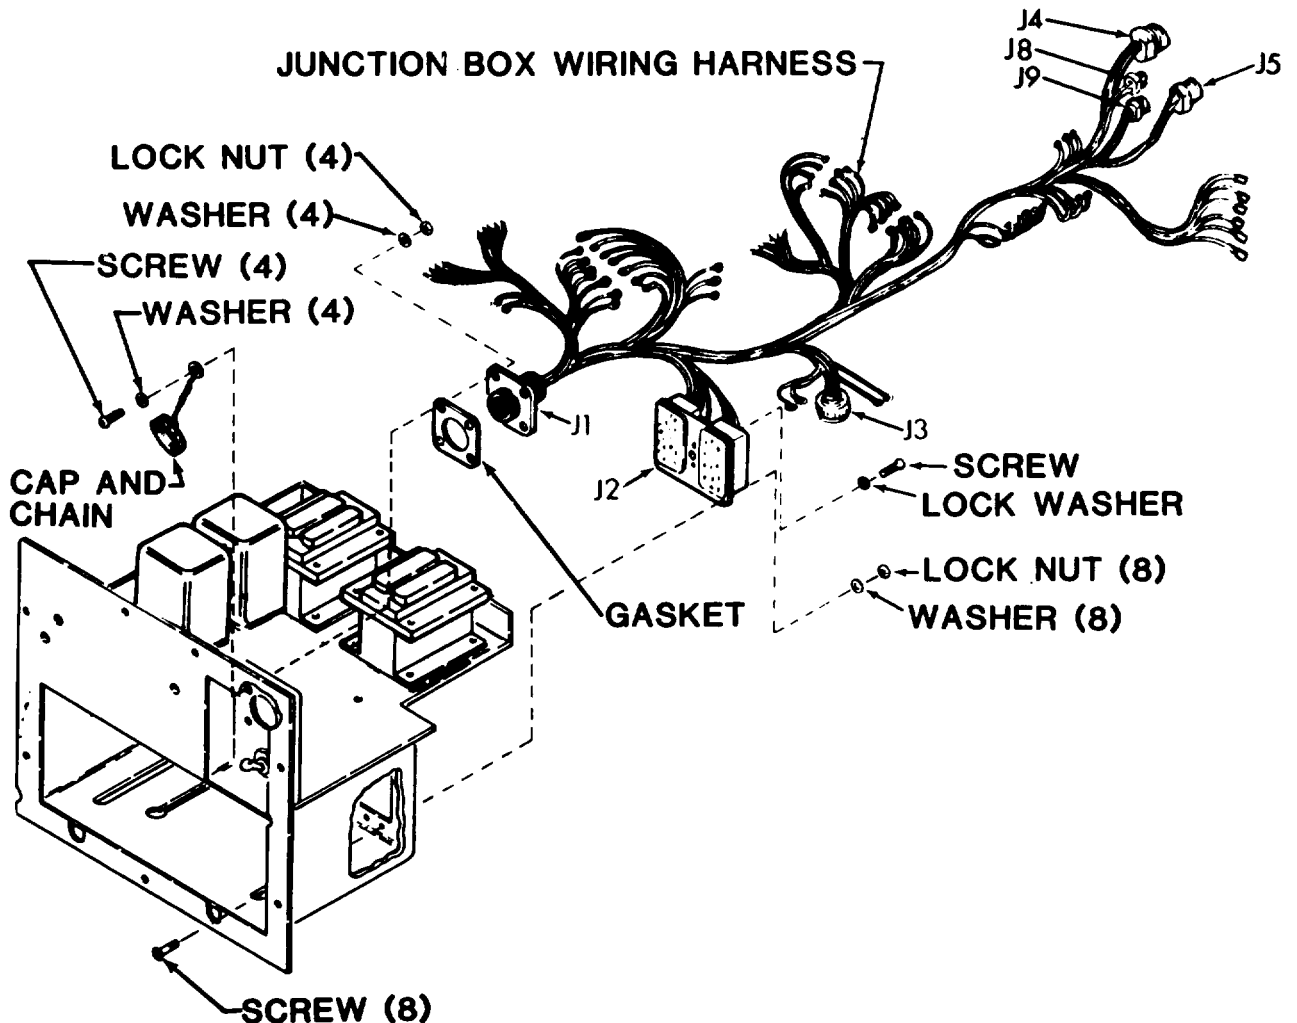

Figure 4-23. Junction Box Wiring Harness
a. Inspect. (See fig. 4-23.)
(1) Disconnect power at power source.
(2) See paragraph 4-21a and remove control module.
(3) Remove top front cover on F18H-3S and F18H-1S or top cover on F18H-3SA and F18H-3SB (para 4-11).
(4) Remove seven screws and lock washers and carefully slide junction box out of unit.
(5) Inspect connector for loose, damaged or missing pins. Replace if defective.
(6) Check individual wires for loose solder connections, loose terminal lugs, cut or frayed insulation, cut or broken wires.
b. Removal. Tag and disconnect individual wires and connectors from unit. (See fig. 4-23.)